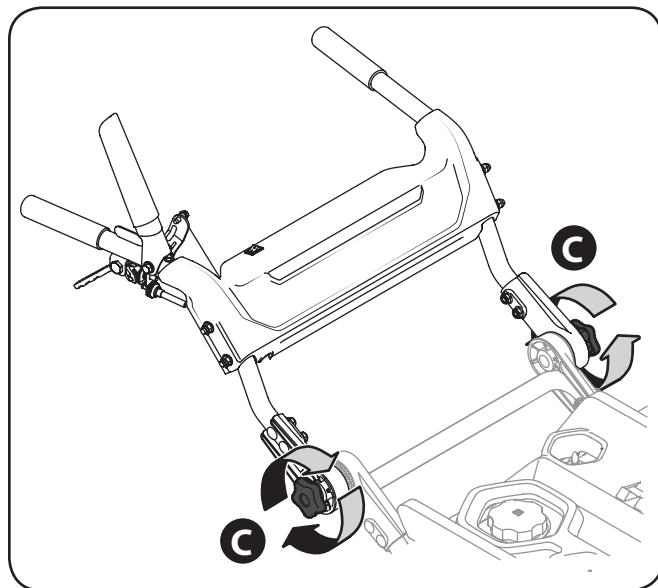

Figure 3-3
3. Tighten the two star knobs (C) to firmly secure the upper handle and support tubes. See Figure 3-3.
Note: The convenient star knobs, detailed in C of Figure 3-3, are available for the operator to simply make a handle adjustment, based on preference and/or application, quickly, and easily.
2. Lightly tighten the two star knobs (C) to secure the upper handle into the stowed position. See Figure 3-3.